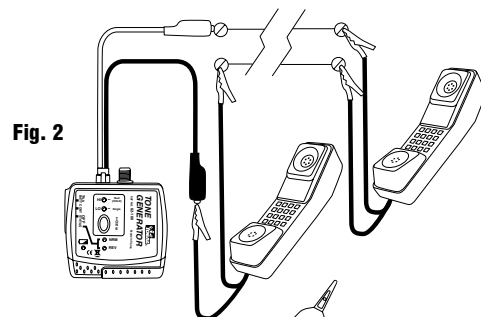

Fig. 2
3. Place both test sets "off hook" or TALK position to establish communication. (See Fig. 2)